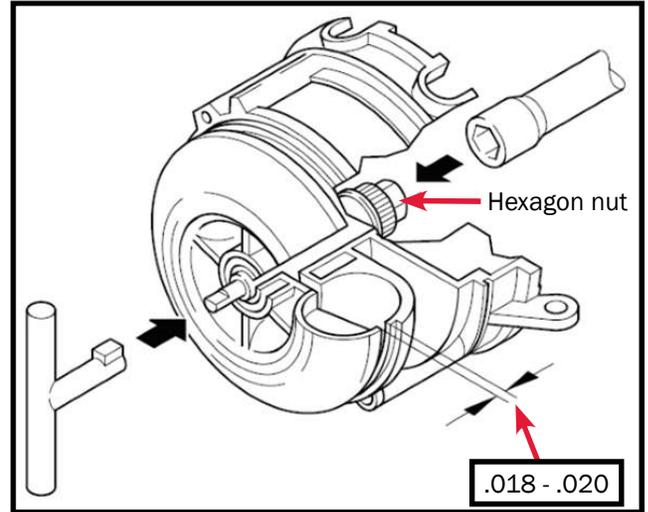

Figure 116a
- Place a feeler gauge between the combustion air blower and the flat surface of the blower casing. Slowly tighten (or loosen) the retaining nut, holding the combustion air blower, until a .018 - .020 gap is achieved. Remove feeler gauge. Reference Figure 116a.